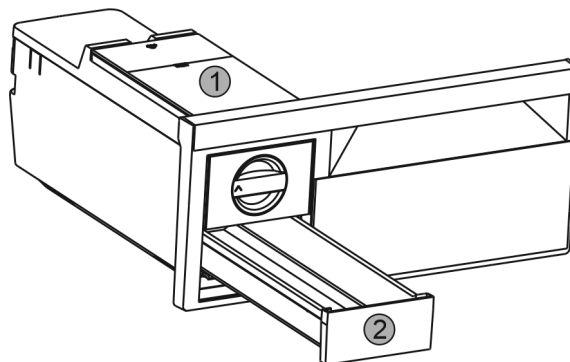

Fig. 36
- ▶ Take out the water tank Fig. 36 (1) and ice cube drawer Fig. 36 (2).